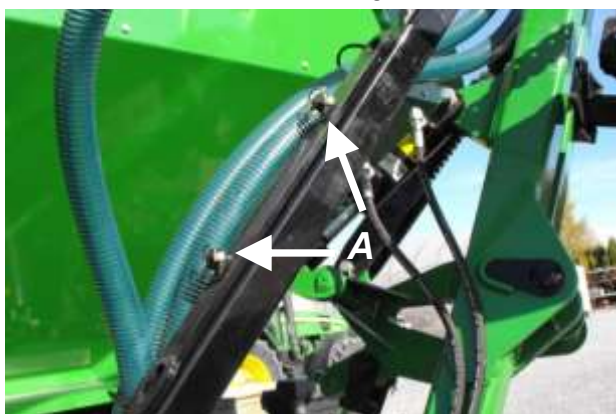
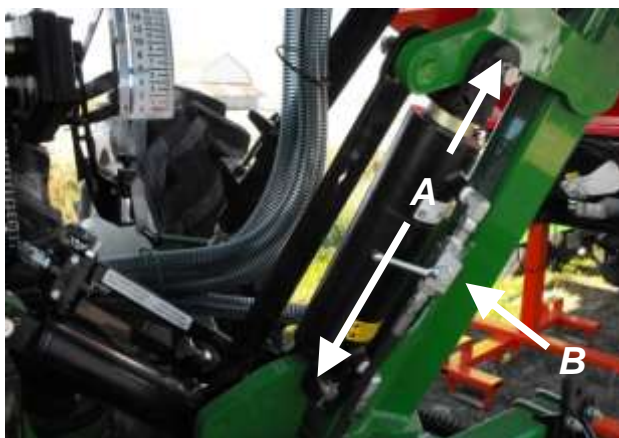

Figure 6A
Figure 8
16. On the tool bar, remove the cylinder security lock and open the hydraulic valves (Figure 8, **B**). Fix the security lock on the sliding tubes with pin reserved for this purpose [Figure 6A, **A**].
8, **A**] and close the hydraulic valves [figure 8, **B**].